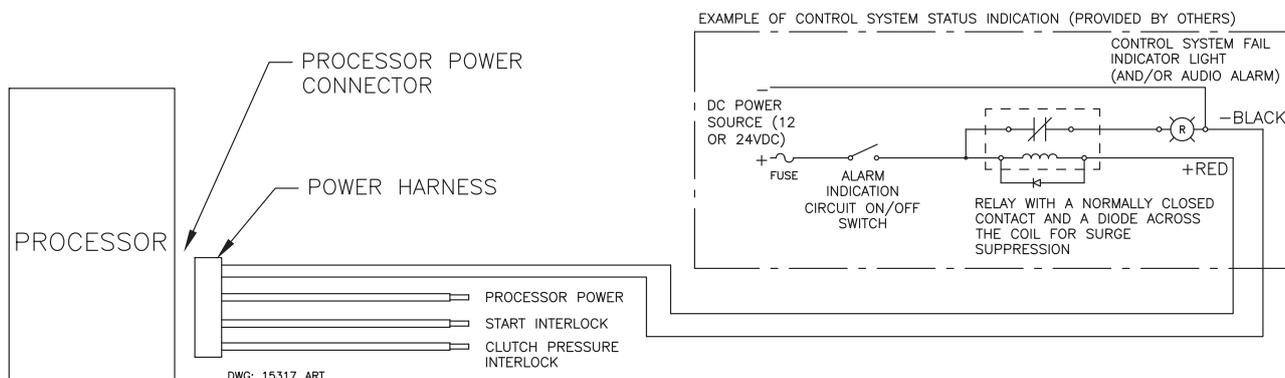

Figure 8-1: Example of Control System Status Indication
- Figure 8-1: Example of Control System Status Indication and Figure 8-1: Example of Control System Status Indication are an example of a suitable circuit, but not necessarily the only circuit configuration acceptable.
- C Connect the black and red conductors to the Status Indication Circuit as shown in Figure 8-1: Example of Control System Status Indication and Figure 8-1: Example of Control System Status Indication.